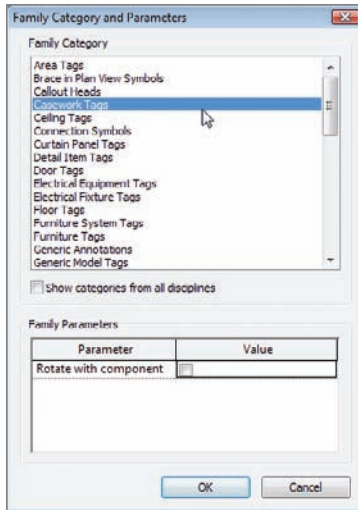

FIGURE 11.77 Selecting Casework Tags
3. In the Family Category And Parameters dialog, select Casework Tags, as shown in Figure 11.77.